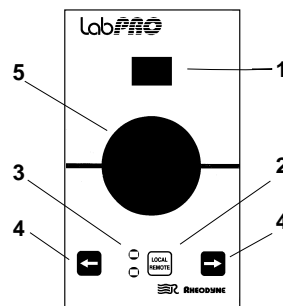
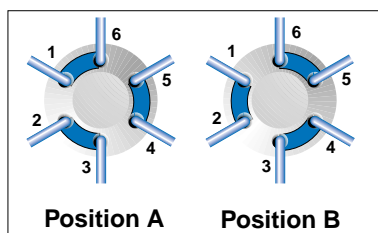
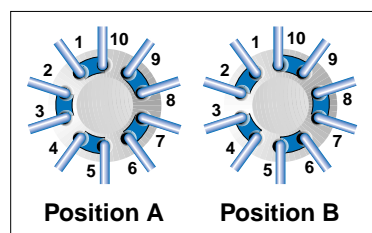
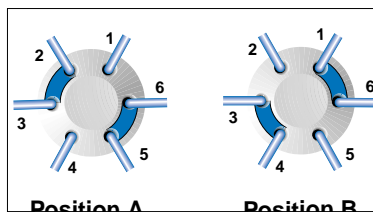

Fig. 1. Front view of LabPRO Two-Position Fluid Processor and Double Three-Way Diverter.
Fig. 2. Flow diagram of LabPRO Two-Position, Six-Port valve.
Fig. 3. Flow diagram of LabPRO Two-Position, Ten-Port valve.
Fig. 4. Flow diagram of LabPRO Double Three-Way Diverter.
1. Figure 1 shows a front view of the Two-Position Fluid Processor and Double Three-Way Diverter.
2. The Numeric Display (1) shows the number of the valve position.
3. The Local-Remote button (2) controls the manual or remote position selection.
4. The Mode indicator lights (3) show the selection mode.
5. The Manual Operation buttons (4) move the position of the valve when in Local mode.
6. The valve (5) is located to provide easy access to the liquid end should servicing be required. The supplied Rheodyne fittings match the valve's material of construction.
7. Figure 2 shows a schematic flow diagram of the 6-port valve. Figure 3 shows the flow diagram of the 10-port valve. Figure 4 shows the flow diagram of the Double Three-Way Diverter. The circles represent the ports in the valve stator. The dark grooves are the connecting passages in the rotor seal. The valve rotates 60° between positions one and two.